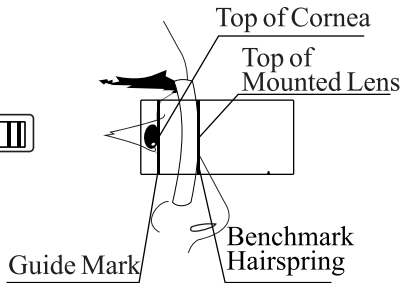

Fig. 9b
c. After targeting is finished. Optician slides left/right pupil Measuring key to coincide the Benchmark spring with the top of the lens (Fig.9b). The distance from the top of the cornea to the mounted lens can be obtained by deducting the thickness of the lens from the value digitally displayed at that time.